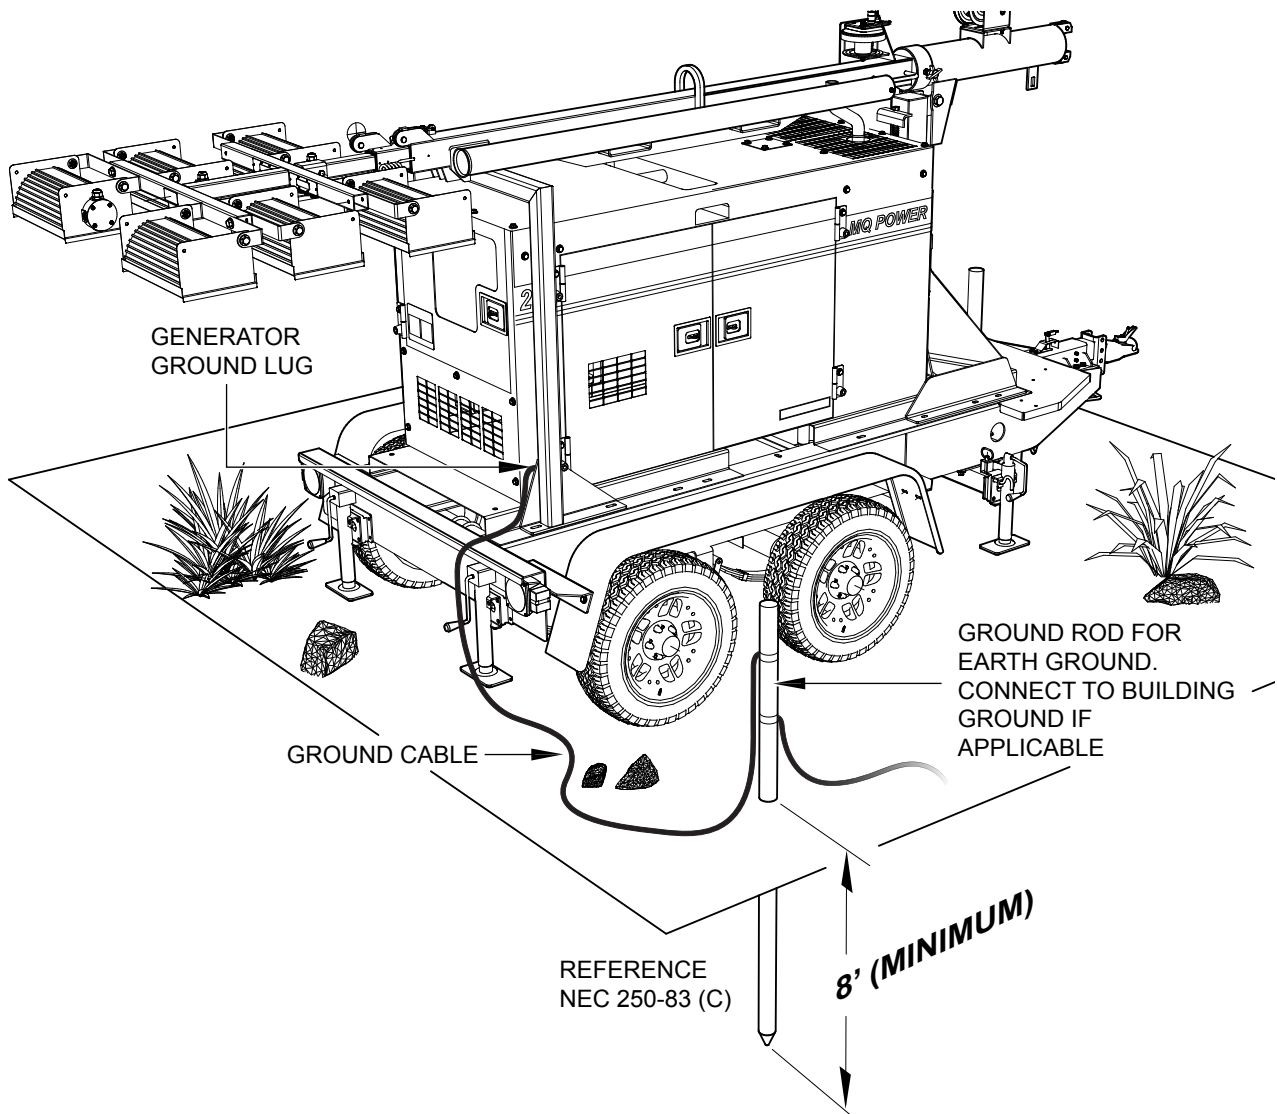

Figure 2. Typical Generator Grounding Application
To guard against electrical shock and possible damage to the equipment, it is important to provide a good **EARTH** ground (Figure 2).
2. When grounding the generator (Figure 2) connect the ground cable between the lock washer and the nut on the generator and tighten the nut fully. Connect the other end of the ground cable to earth ground.